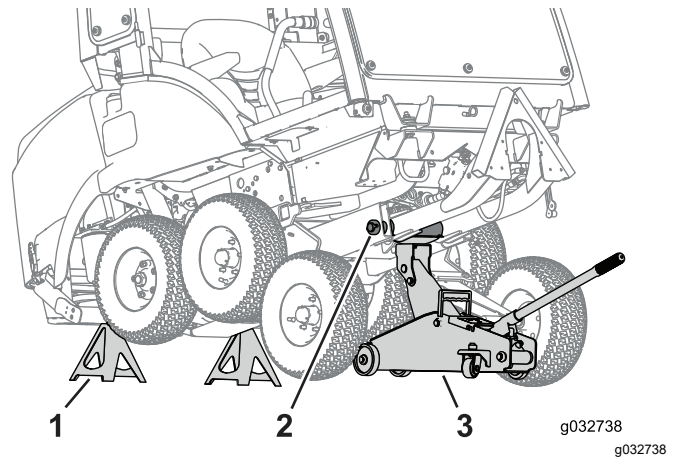

Figure 88
4. Use a floor jack to lift the winter frame (Figure 88).